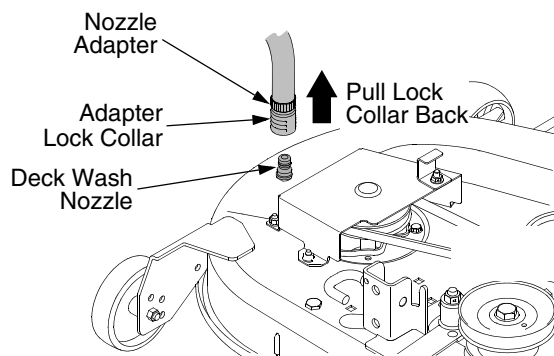

Figure 54
7. Carefully guide the tractor implement lift links (left and right) into the rear deck bracket slots (left and right) as the tractor implement lift handle is lowered to its lowest setting (Refer to Figure 54).
- Pull back the lock collar of the nozzle adapter and push the adapter onto the deck wash nozzle at the left end of the mower deck. Release the lock collar to lock the adapter on the nozzle. See Figure 54.